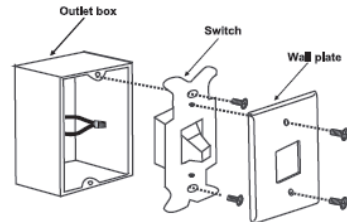

Figure 1
Step 1. Remove the existing wall plate and the old switch from the wall outlet box. Wire nut the **BLACK** leads (hot) together and push back inside the outlet box. (Fig. 1)